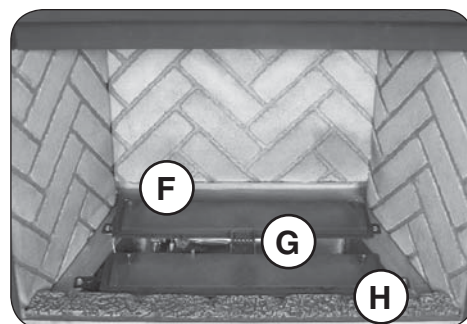

Fig. 30-4 Install burner(s), screen, front floor panel
11. Re-install the burner(s) and ember screen (if applicable). Use the existing hex screws and a $\frac{5}{16}$ " nut driver for the burner. See Fig. 30-4, "F" and "G".
12. Re-install the front floor panel at the front of the unit. Ensure it completely rests inside of the front lip of the unit. See Fig. 30-4, "H".